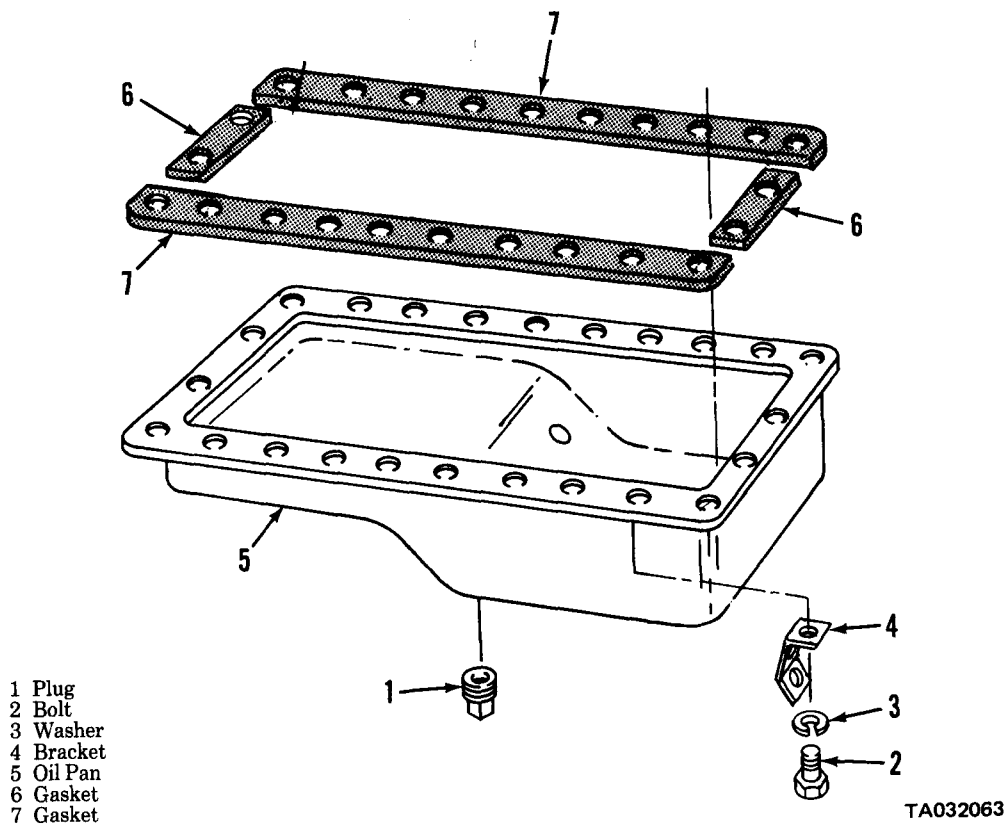

Figure 3-92. Oil pan, disassembly and reassembly.
c. Disassembly. Refer to figure 3-92 and disassemble the oil pan.
(1) Clean oil pan and attaching hardware thoroughly, using cleaning solvent P-D-680 or equivalent. Dry with compressed air.